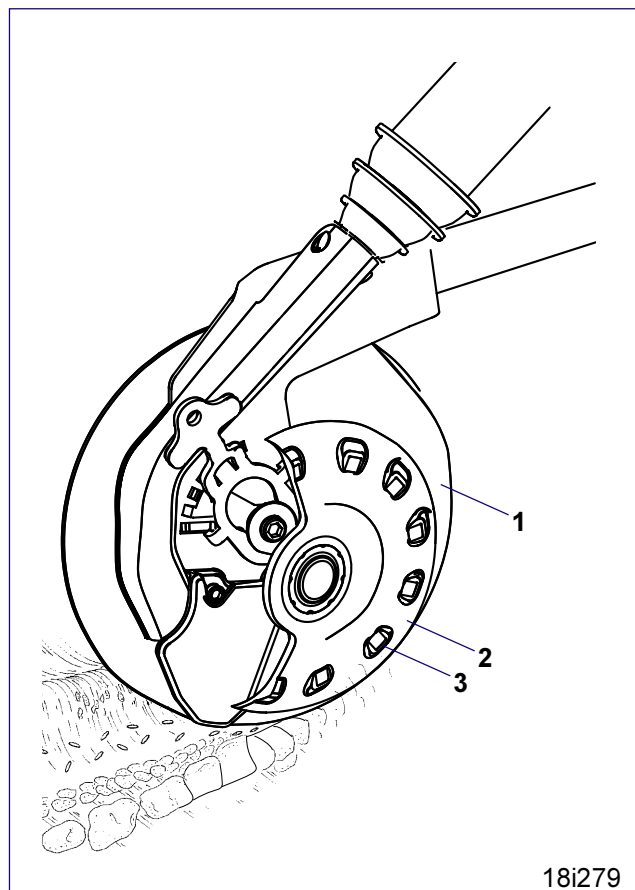
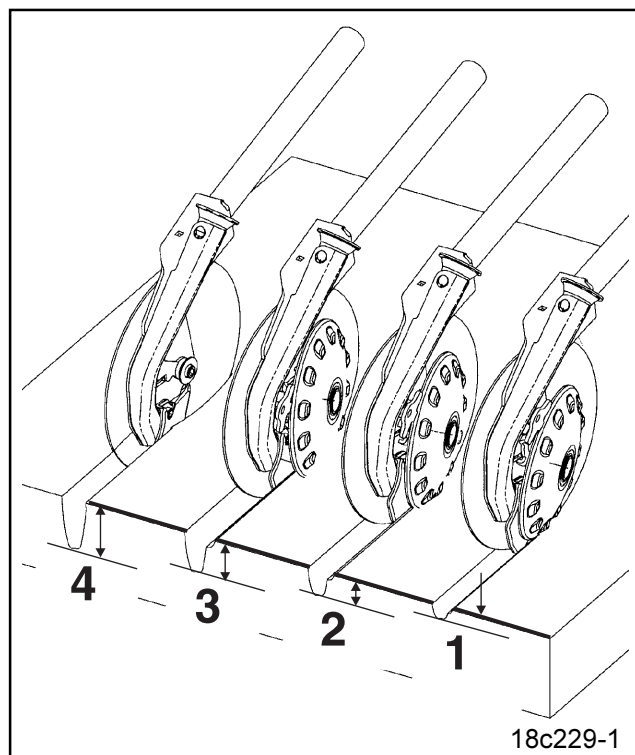

Fig. 2.4
Fig. 2.5
The AMAZONE RoTeC-disc coulter (Fig. 2.4) optimises the sowing accuracy, area efficiency, and life time when sowing after the plough and mulch sowing.
The steel disc (Fig. 2.4/1) is off set by only 7° as seen in the driven direction so that even at high forward speeds only a little soil is moved.
The seed furrow has almost got a rectangular profile which is formed by the steel disc and the cast iron unit. In this way, a solid seed furrow is achieved which ensures an accurate seed placement depth. Due to the small angle of attack hardly any soil sticks to the side of the disc, even on sticky soils. The flexible polyurethane (PU) disc (Fig. 2.4/2) which is attached to the steel disc carefully cleans the back of the disc. The molded lugs of the PU disc (Fig. 2.4/3) provide additional drive.
The PU-disc (Fig. 2.4/2) is also used as a depth limiting roller as it rolls on the soil and limits the penetration depth of the steel disc into the soil. This penetration depth can be set by means of a grip handle in three steps from 2 to 4 cm (Fig. 2.5, Item 1 – 3).
For deep sowing greater than 4 cm (Fig. 2.5, Item 4) the depth limiting disc can be removed without tools.